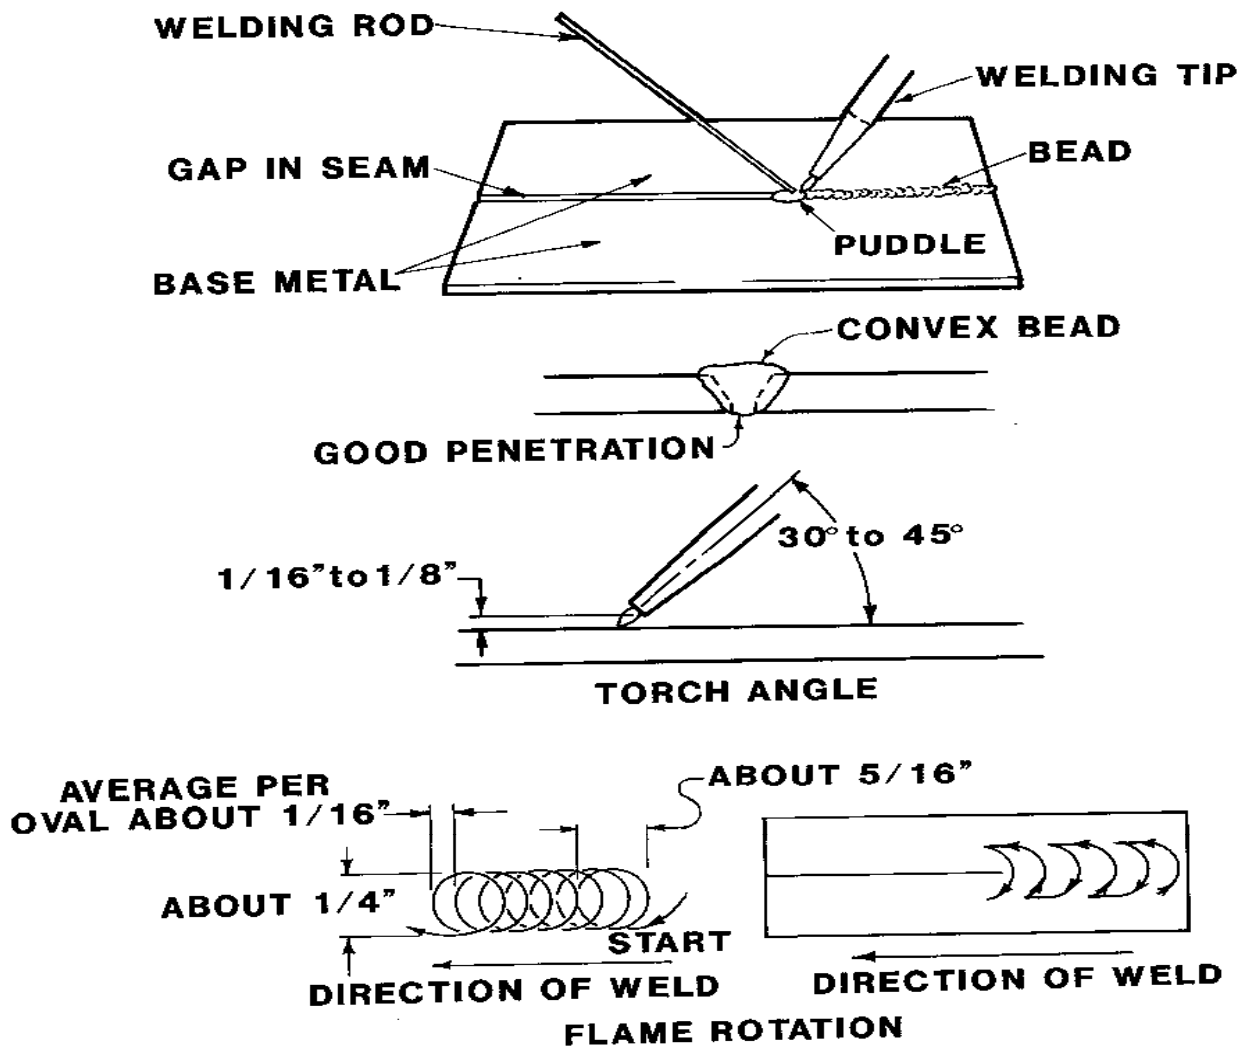

Figure 22, Starting and Finishing the Weld
2. Hold the torch nozzle at an angle of approximately 45° to the base metal gap (see Figure 22, page 30).